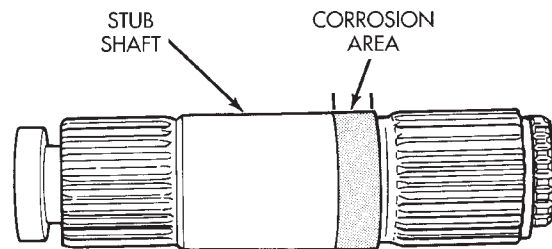

Fig. 66 Stub Shaft Corrosion
(7) Inspect stub shaft for corrosion (Fig. 66). If corrosion exists, wrap stub shaft with wax paper and install seal protector over wax paper.